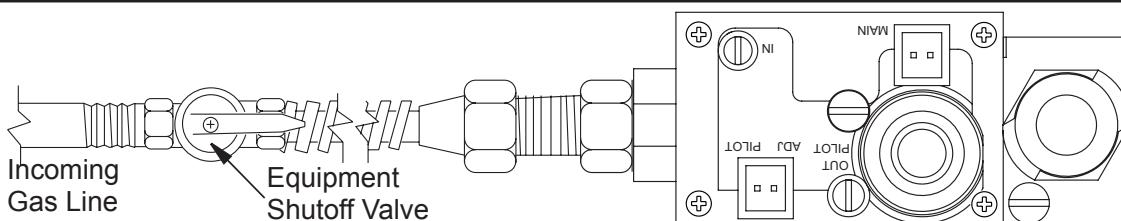

Figure 37 - Turning Equipment Shutoff Valve to the OFF Position
5. Turn equipment shutoff valve clockwise ↘ to the OFF position (see Figure 37). Do not force.
6. Wait five (5) minutes to clear out any gas. Then smell for gas, including near the floor. If you smell gas, STOP! Follow "B" in the safety information, column 1. If you don't smell gas, go to the next step.
- Turn the adjustment screw marked PILOT clockwise to decrease or counterclockwise to increase the flame to proper size (*see Figure 37, Page 24*). Do not remove the adjustment screw.